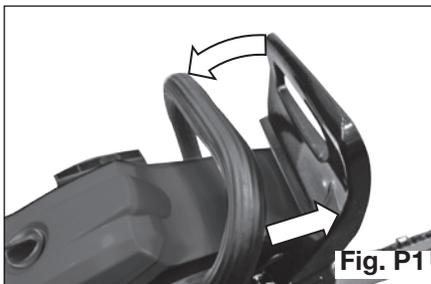

Fig. P1
- 4) Turn idle adjusting screw (T) counterclockwise to that saw chain dose not turn. If idling speed is too slow, turn the screw clockwise.
- ④ L needle
- ⑤ H needle
- ⑥ Idle adjusting screw
8. CHAIN BRAKE (Fig. P1&P2)